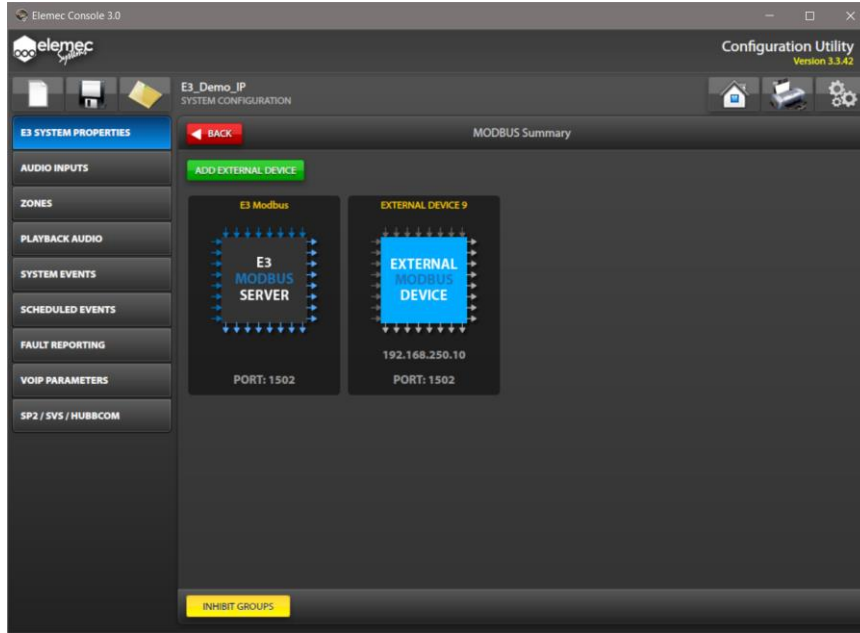

Figure 60. MODBUS Summary
- Click the MODBUS button from the SYSTEM PROPERTIES screen to access the MODBUS SUMMARY screen (see Figure 60).